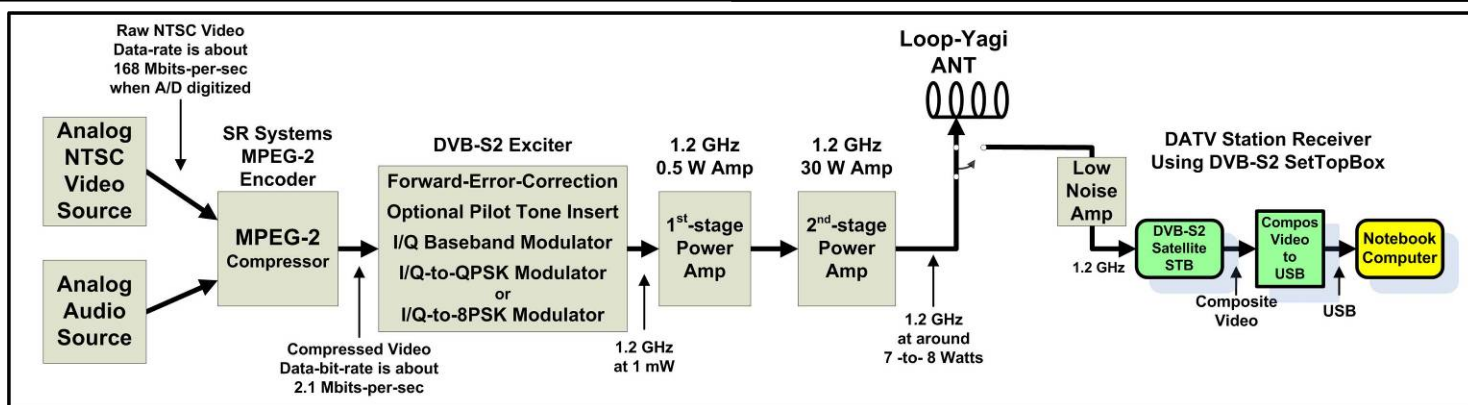

Figure 1 – Block Diagram of Basic DVB-S2 Station for DATV
DATV pioneer and enthusiast Stefan Reimann DG8FAC of SR-Systems in Germany has shown that DVB-S2 digital technology is possible for hams (see the SR-Sys model 2TS-MidiMOD2). **Fig 1** is a block diagram of a basic DVB-S2 ham station for DATV. The analog camera and video is compressed by a MPEG-2 encoder board. The TransportStream (TS) digital data is fed to the DVB-S2 exciter board that does a lot of complicated data processing and then converts the digital data directly into modulated RF at a desired frequency. The small RF output signal of the exciter board is typically amplified by two stages of very linear RF amplifiers.
For DATV, the analog camera output is first digitized by the MPEG-2 Encoder board shown in **Fig 1**, and then compressed by the MPEG-2 algorithm. The reason the compressed video data rate varies in **Table 1** is that the small value means little motion in the video scene and the larger value means a lot of motion.
Same as MPEG-2 output data rate in Fig 1